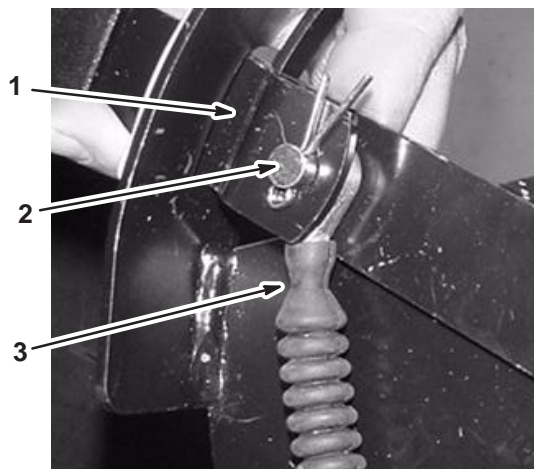

Figure 11
- Secure the cable to the lever with a clevis pin and cotter pin (3/4 in.) (Fig. 11).